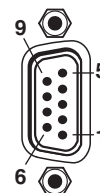

Figure 26. Remote RS-232/RS-422 Port
- Ⓒ **Remote RS-232/RS-422 port** (see figure 2 on page 12 and figure 3 on page 13) — Connect a host device, such as a computer or touchpanel control, to the matrix switcher via this 9-pin D connector for serial RS-232 or RS-422 control (see figure 26).